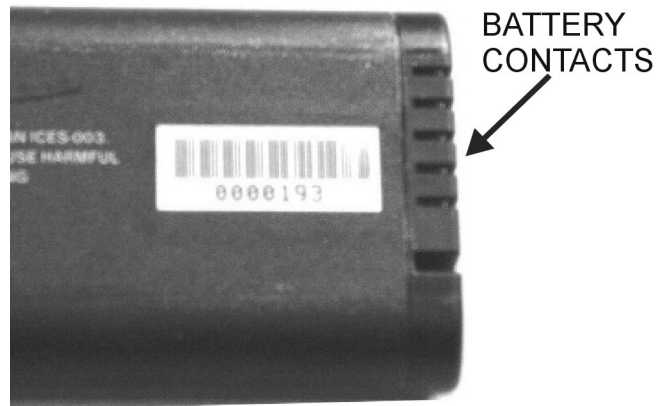

Figure 11. Battery Contacts
5. Replacement is the opposite of removal. Note the orientation of the battery contacts, and be sure to insert the new battery with the contacts facing the bottom of the unit, as illustrated in Figure 11.